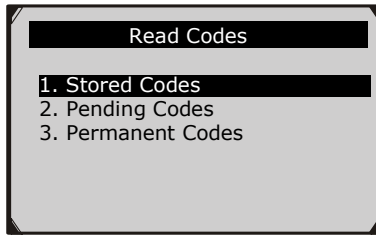

Figure 6.4
- 2) Use the **UP/DOWN** scroll button to select **Stored Codes**, **Pending Codes** or **Permanent Codes** from the **Read Codes** menu and press the **OK** button (Figure 6.4).